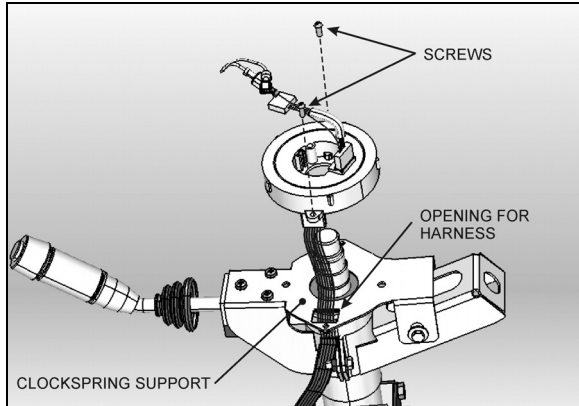

FIGURE 12: CLOCKSUPPORT INSTALLATION
3. Route the new clockspring harness through the opening in the clockspring support (Fig. 12). Plug the connector at the base of the